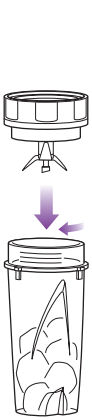

Fig. 1
- 3 Place the single serve blade onto the cup and screw it tightly until you have a good seal. (Fig. 1)
- 2 Align and lower the bowl onto the motor base. (Fig. 1) Handle should be aligned slightly to the left of the "LOCK" symbol on the motor base.
- 3 Rotate the container clockwise as far as it will go to lock in place. (Fig. 1)